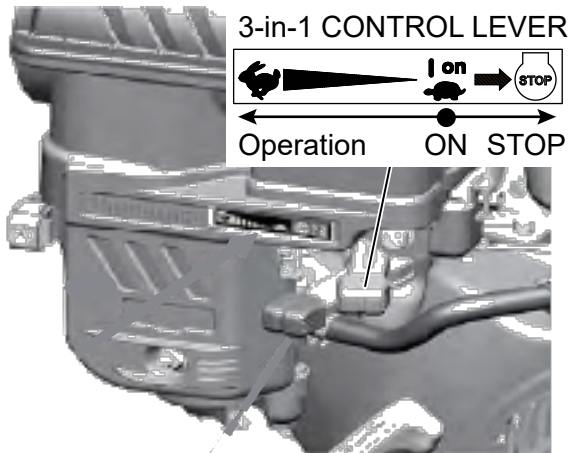

Figure 19. Fuel Valve Lever (OFF)
2. Move the 3-in-1 control lever to the Stop position. (Figure 19).